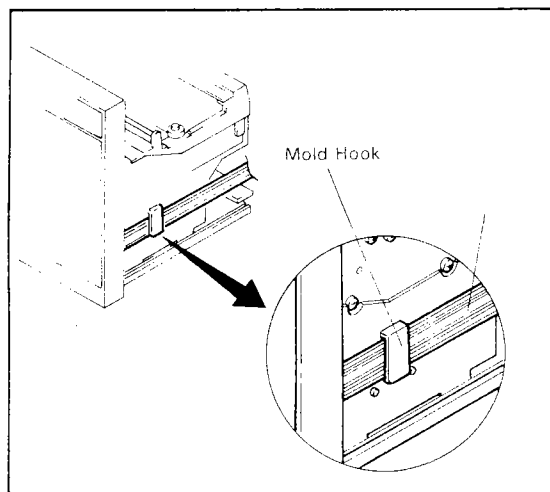

Figure 7-9. Flexible Printed Board.
- (7) The flexible printed board for the front display section is suspended by the mold hook (Figure 7-9). Remove the board from mold hook without damaging it.